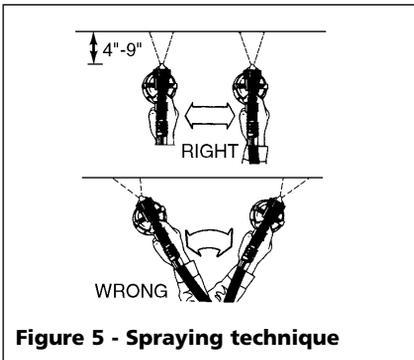

Figure 5 - Spraying technique
- When spraying, hold spray gun parallel to the painting surface (see Figure 5).